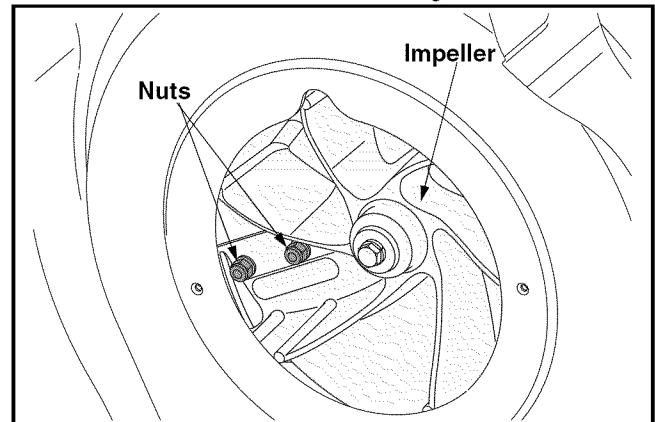

Figure 25
- The nuts on the flat head cap screws can be reached from underneath using a 1/2-inch socket, universal, and extension. See Figure 25.